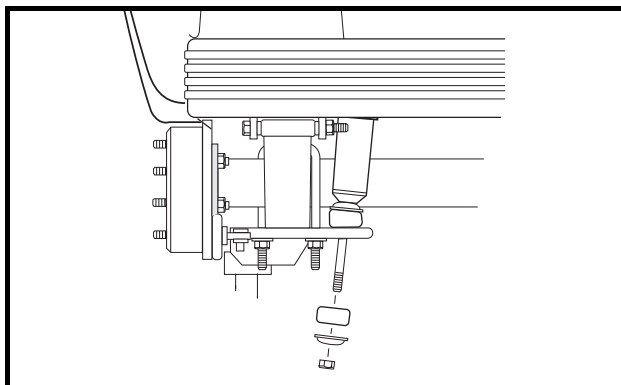

Figure 16-8 Disconnect Shocks
6. Disconnect the shock absorbers from their lower mounts (**Figure 16-8, Page 16-5**).